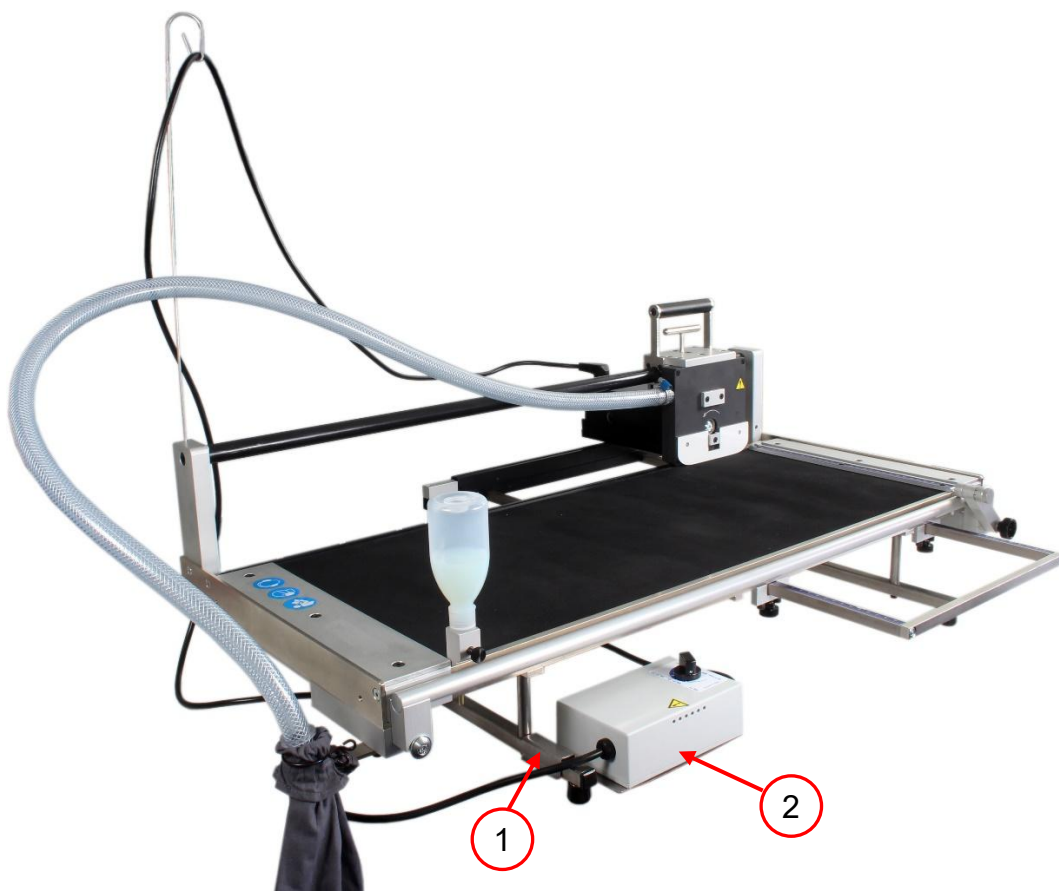

Figure 29 Mounting Speed Controller VARGA VA 11
17. Mount the speed controller (2, Figure 29) with the bracket on the base (1, Figure 29) of the precision table saw.